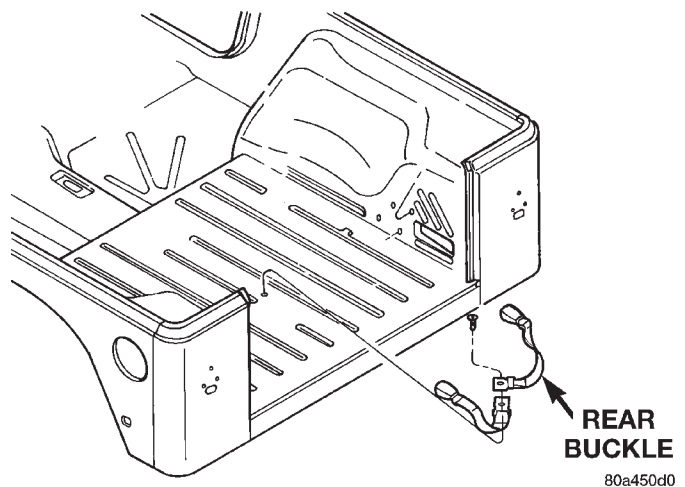

Fig. 57 Rear Buckle
(1) Move the rear seat to the forward tumble position.
(2) Grasp the carpet between the buckles and lift to access the anchor bolt.
(3) Remove the anchor bolt and separate the buckle from the vehicle (Fig. 57).